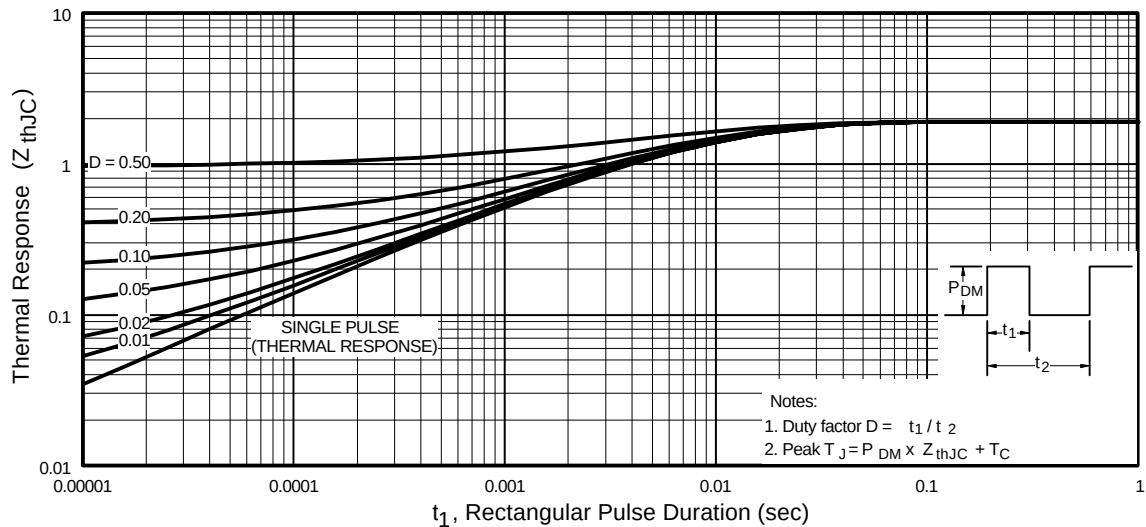

Fig 11. Maximum Effective Transient Thermal Impedance, Junction-to-Case
- ① Repetitive rating; pulse width limited by max. junction temperature. (See fig. 11)
- ② $V_{DD} = 25V$, starting $T_J = 25^\circ\text{C}$, $L = 3.1mH$